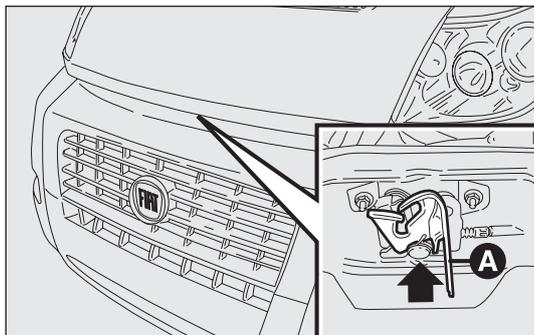

fig. 124
- pull the lever A-fig. 124 as shown in the figure;